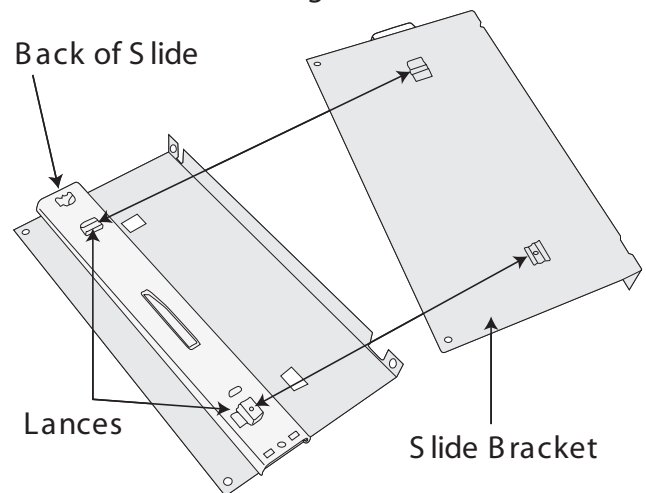

Figure 2
2. Install slides in slide brackets by slipping lances in slides into the slots in the slide brackets. (LH slide in LH bracket, RH slide in RH bracket (see figure 2).